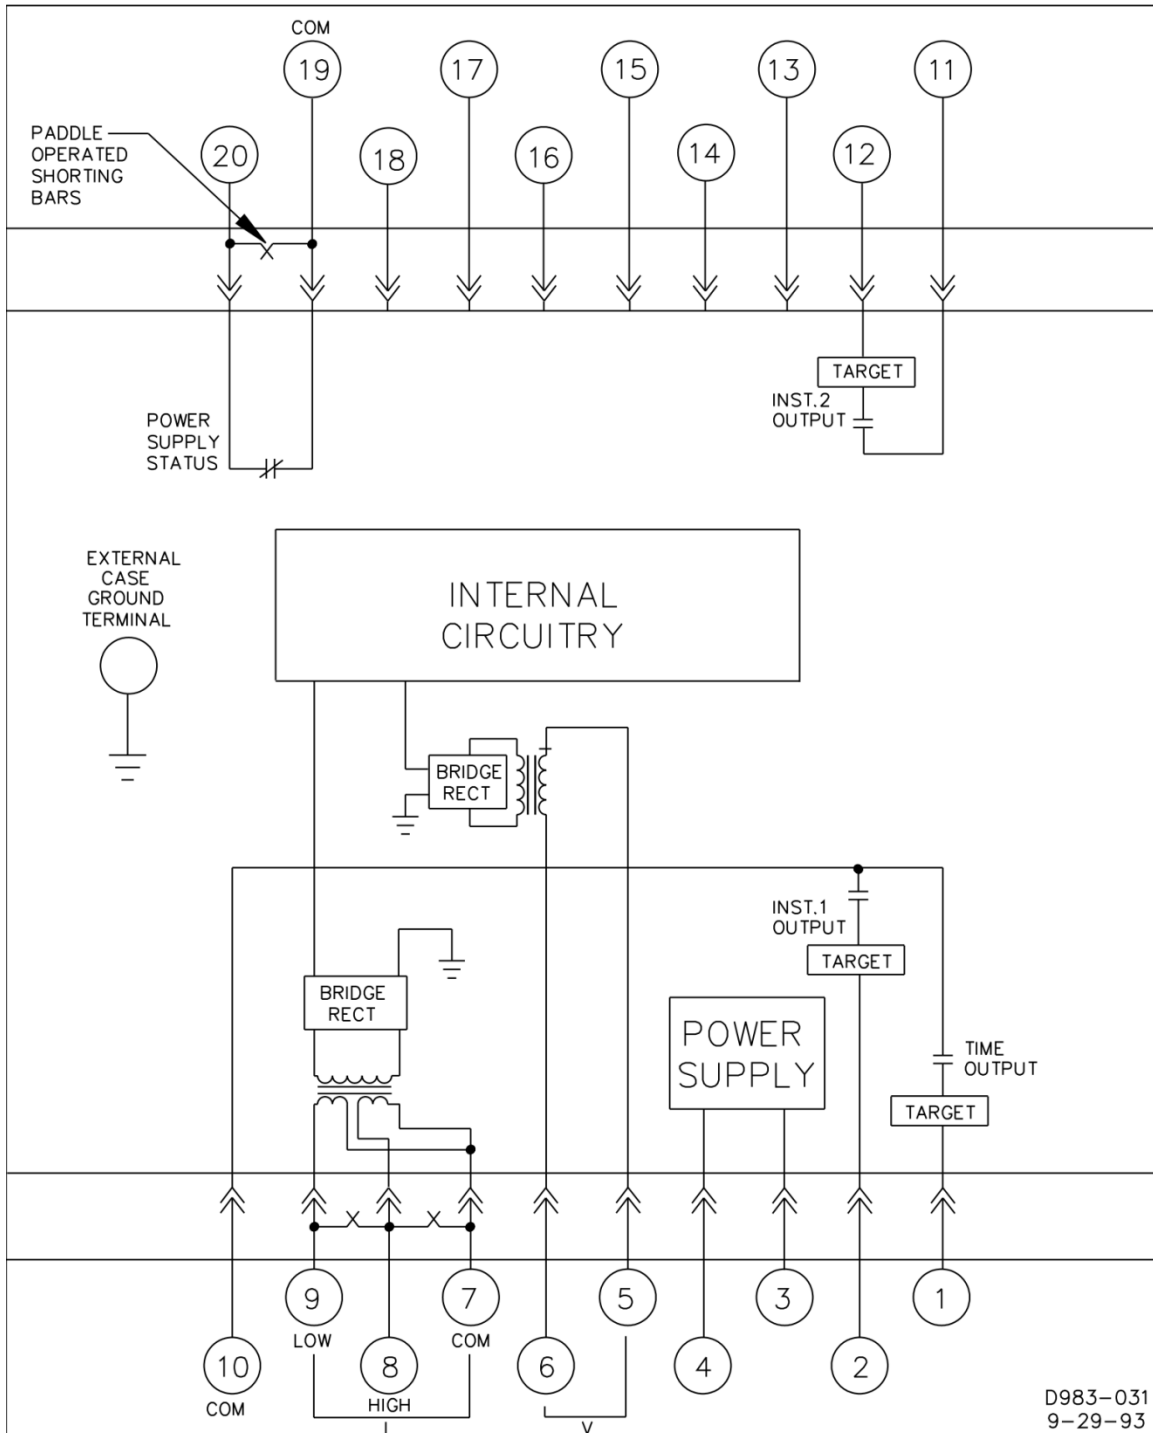

Figure 4-20. Typical Internal Diagram, Sensing Input Type M or N
- Figure 4-20: Typical Internal Diagram, Sensing Input Type M or N